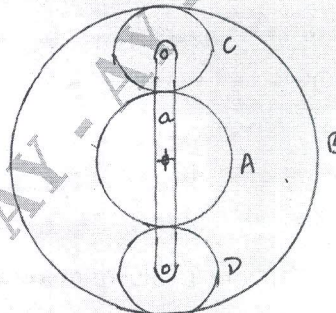

Fig. Q4 (b)
- b. An epicyclic gear train is shown in Fig. Q4 (b). The number of teeth on A and B are 80 and 200. Determine the speed of arm a (i) if A rotates at 100 rpm clockwise and B at 50 rpm counter-clockwise (ii) If A rotates at 100 rpm clockwise and B is stationary. (10 Marks)